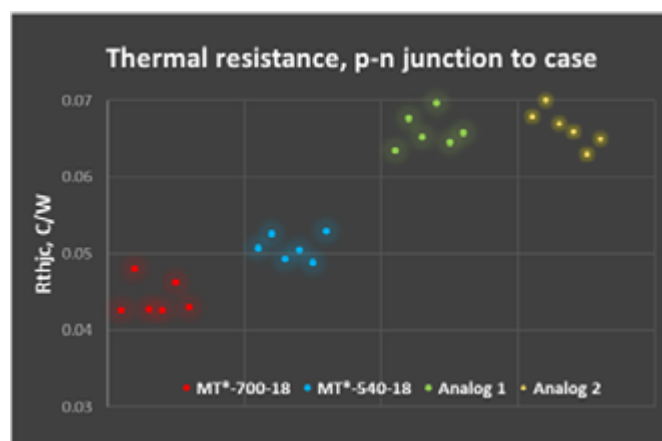

Figure 5: Heat resistance junction-case for a standard MT*-540-18-A2 and optimized MT*-700-18-A2 module
2. Heat loss – junction-case thermal resistance (R_{thjc}) reduced by 10%. Figure 5 shows the experimental values of the thermal resistance of a standard MT*-540-18-A2 and an optimized MT*-700-18-A2 thyristor module in comparison with the measured values for alternatives from other manufacturers.